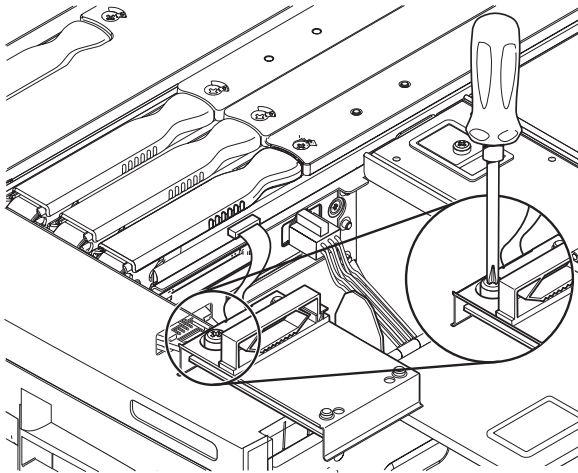

FIGURE 6-20 Loosening the SCC Reader Captive Screw
10. Loosen the captive screw securing the SCC reader (FIGURE 6-20).
5. Tighten the captive screw (FIGURE 6-20).